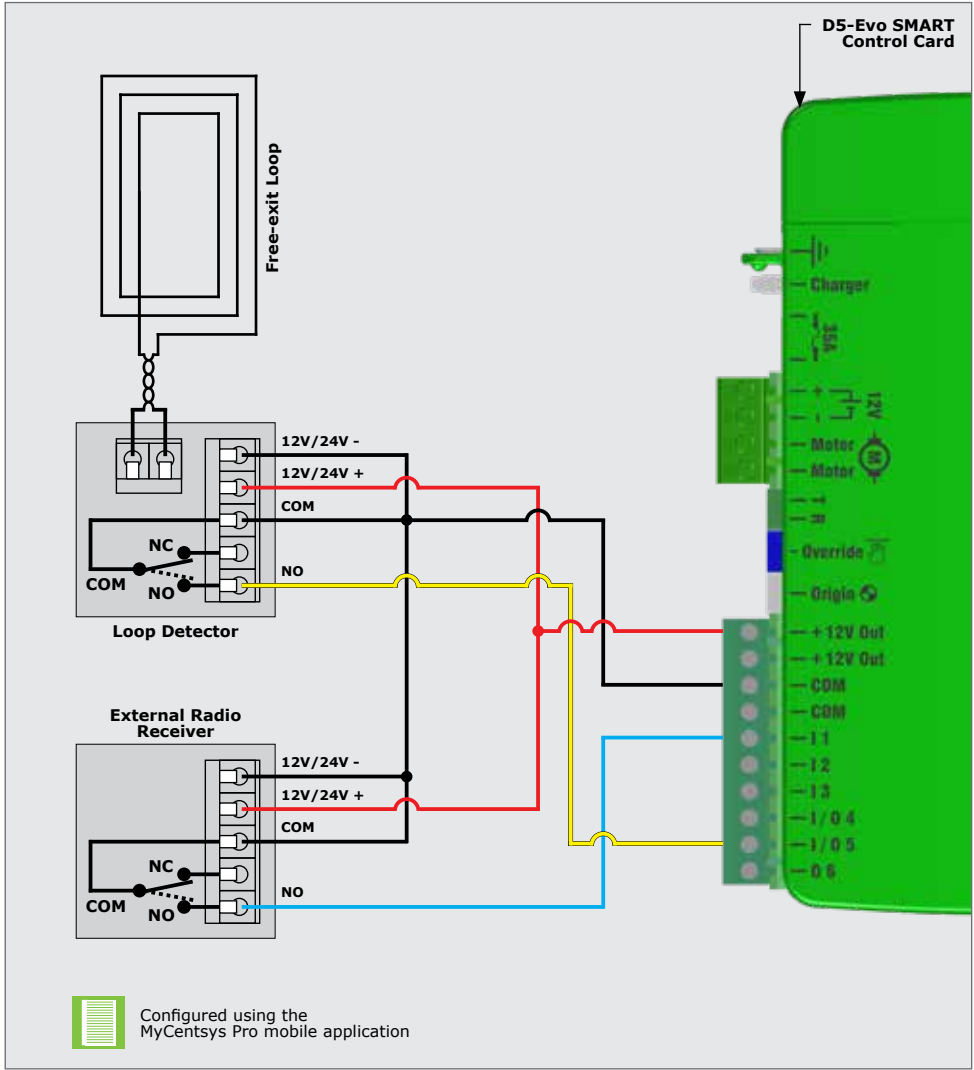

FIGURE 92
1. Scan the QR Code in Figure 92.